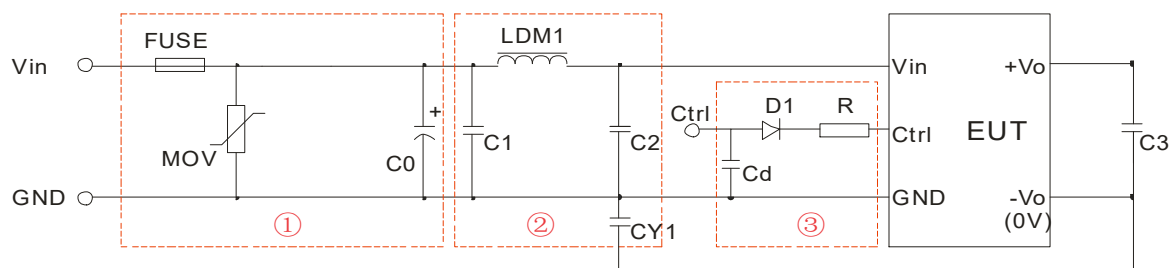

Fig 3
- ① For EMC tests we use Part ① in Fig. 3 for immunity and part ② for emissions test. Selecting based on needs.
- ② VC is the voltage of the Ctrl end relative to the GND of the input grounding; VD is the positive-going conduction pressure drop of D1; IC is the current flows into the Ctrl end and its value is generally 5-10mA, see Fig. 3-③ for the peripheral circuit of Ctrl end;
- ③ If there is no recommended parameters, no external component is required.